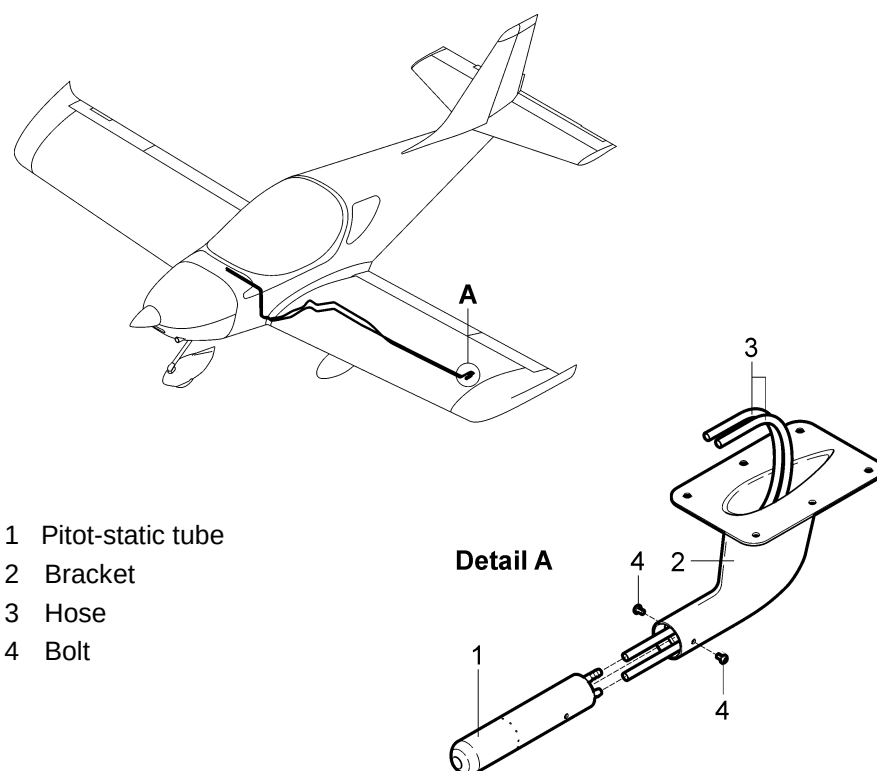

Fig. 12.3.1-1: Removal / installation of the pitot-static tube
- Loose securing bolt (4, Fig. 12.3.1-1) in the pitot-static tube bracket (2) and pull out a bit the pitot-static tube (1) with hoses from the bracket.
- Remove the cable ties from hoses (3). The hose and tube for static pressure line mark by **S** letter and for total pressure mark by **T** letter.
- Disconnect the transparent hoses (3) of static and total pressure from the ports on the pitot-static tube (1).
- (a) Connect the hoses (3, Fig. 12.3.1-1) to the ports on the pitot-static tube (1) and secure them with cable ties.